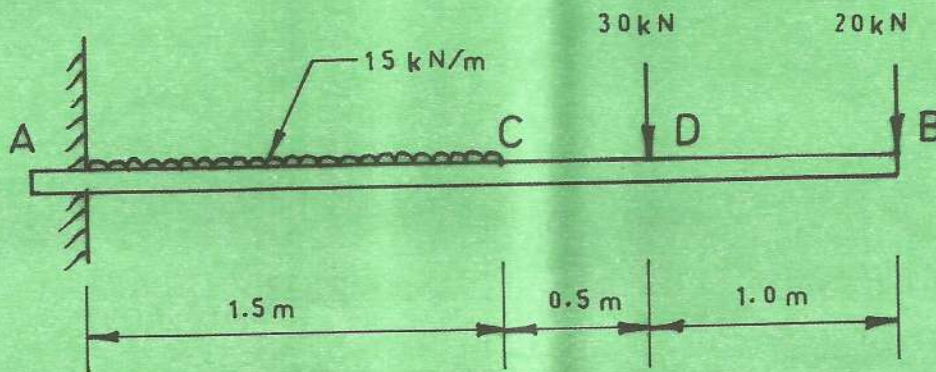

Fig.1
1. (a) **Figure 1** shows a loaded cantilever beam. Using Mohr's method, determine the maximum slope and deflection under the loads in terms of EI . (16 marks)